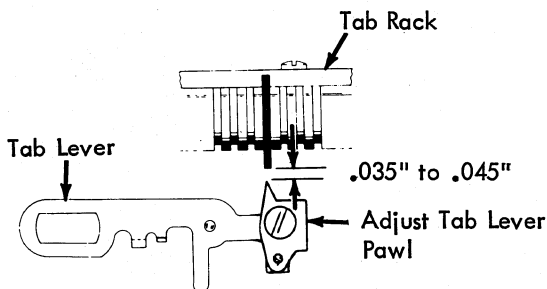

FIGURE 172. Tab Lever Pawl
2. Tab Lever Pawl - Adjust the pawl forward or back on the tab lever so that the tip of the pawl clears a SET tab stop by $.035''$ to $.045''$ with the tab lever at rest (Fig. 172).